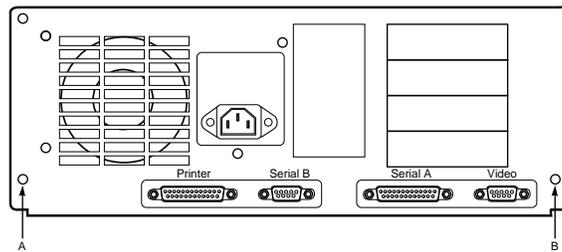

Figure A-14. Master Controller II+ Cover Removal
3. Loosen the two main cover screws (A,B) on the back panel as shown in Figure A-14.